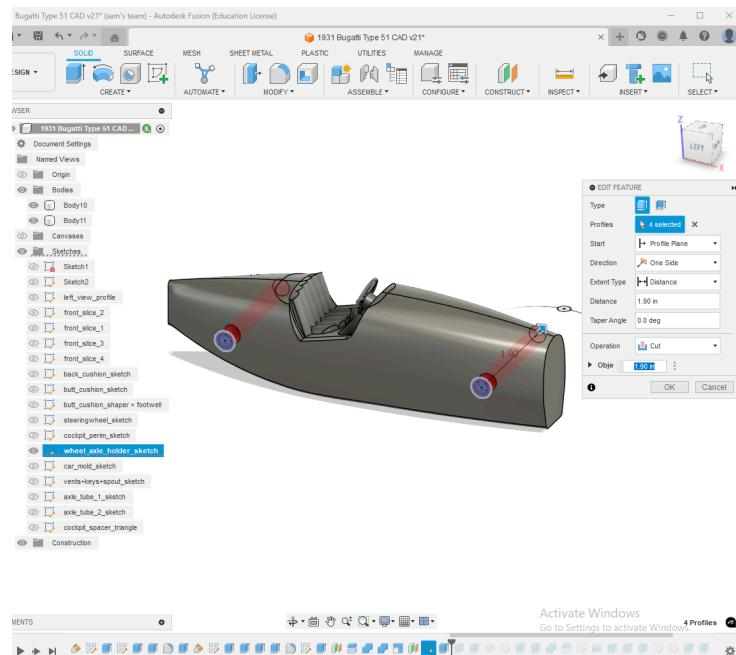

Fig. 25: extrusion of both circles through car body
1. Using the side view photo as a reference, start by selecting logical axle positions. For each axle, sketch two concentric circles: a smaller one matching the axle diameter (0.125") with an added tolerance of ~ +0.02 inches for free rotation, and a larger circle offset by approximately 0.15". Finally, extrude both circles through the car body. See **Fig. 25** for specifics.